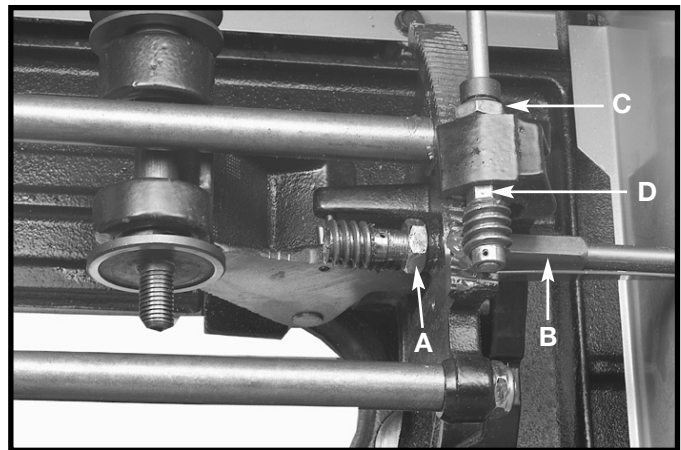

Fig. 38
ADJUSTING BLADE RAISING MECHANISM - Loosen locknut (A) Fig. 38, and turn eccentric sleeve (B) until all play is removed. **Tighten locknut (A) while holding sleeve in place.**
ADJUSTING BLADE TILTING MECHANISM - Loosen locknut (C) Fig. 38, and turn eccentric sleeve (D) until all play is removed. **Tighten locknut (C) while holding sleeve in place.**